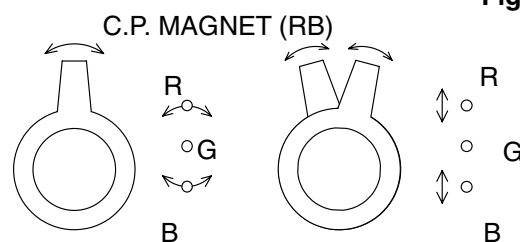

Fig. 10
1. Loosen the Ring Lock and align red with blue dots or Crosshatch at the center of the screen by rotating (RB) C.P. Magnets. (See Fig. 10)